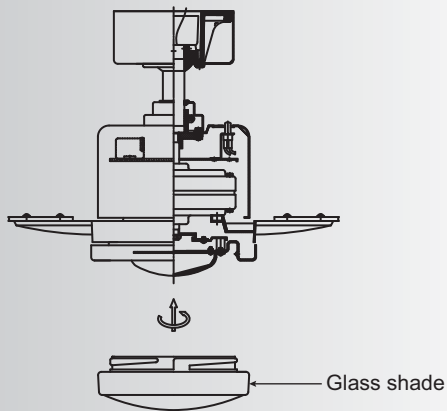

Fig. 19
**Step 4.** Raise the glass shade against the light kit and turn clockwise until snug, **DO NOT OVERTIGHTEN.** (Fig. 19)